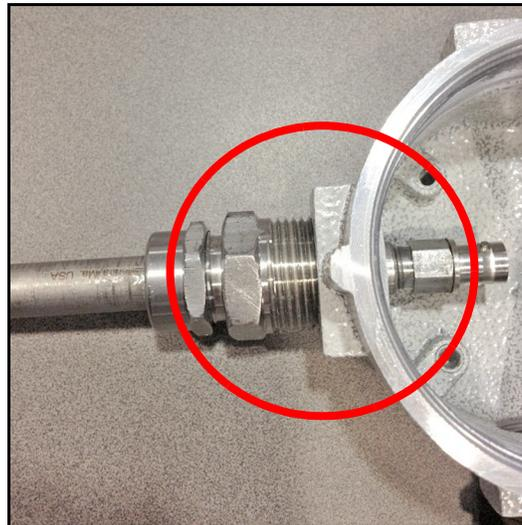

Figure 16: Torquing the NPT Reducer
2. Torque the fitting into one of the 3/4" NPT ports of the junction box with at least 5 threads engaged. After the fitting is torqued into place, ensure that the BNC head of the transducer extends slightly past the ground screw bosses, as shown in *Figure 16* below:
3. If the BNC head extends too far into the junction box, it will make the assembly more difficult to install by reducing the amount of area needed to properly store the excess cable. If the BNC head is not positioned approximately where it is pictured in *Figure 16* above, loosen the compression fitting and adjust the transducer. Then, re-tighten the compression fitting.